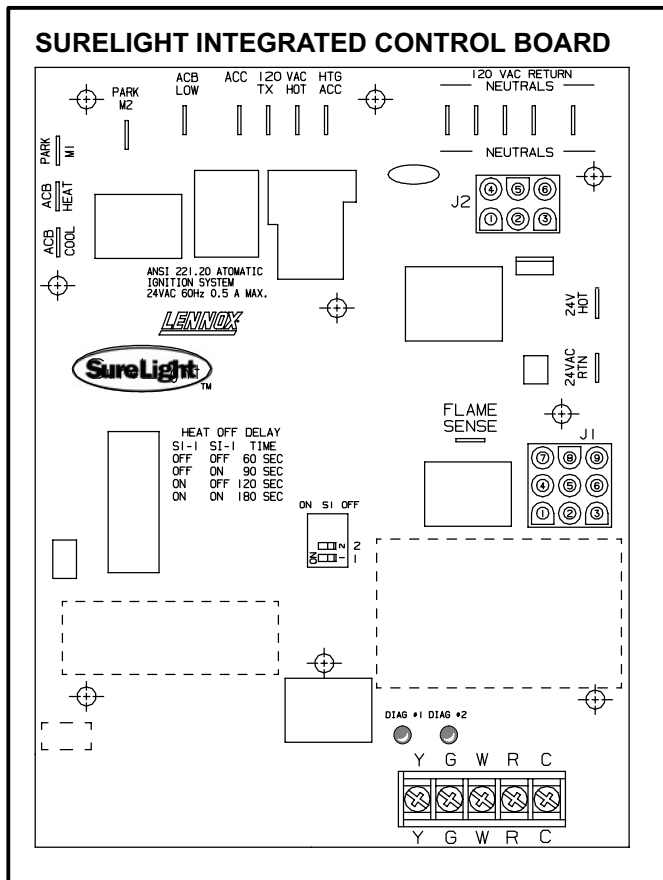
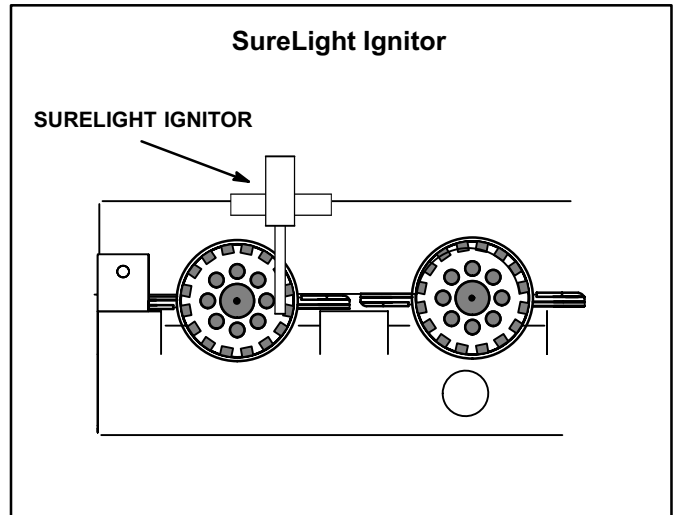

FIGURE 11
FIGURE 12
All 80MGF-11 model units are equipped with the Lennox SureLight ignition system. The system consists of ignition control board (figure 11 with control terminal designations in table 10) and ignitor (figure 12). The board and ignitor work in combination to ensure furnace ignition and ignitor durability. The SureLight integrated board controls all major furnace operations. The board also features two LED lights for troubleshooting and two accessory terminals rated at (4) four amps. See table 9 for troubleshooting diagnostic codes. Table 7 and 8 show jack plug terminal designations. Units equipped with the SureLight board can be used with either electronic or electro-mechanical thermostats without modification. The SureLight ignitor is made of durable silicon-nitride. Ignitor longevity is also enhanced by voltage ramping by the control board. The board finds the lowest ignitor temperature which will successfully light the burner, thus increasing the life of the ignitor.